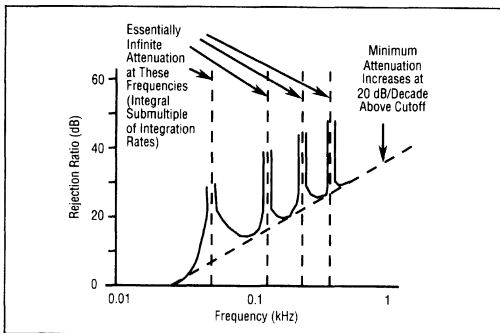

Figure 8. NMRR vs. Frequency of a Typical Integrating ADC.
where  $K(f_0)$  is the transfer function  $e_{out}/e_{in}$  at the frequency of the signal component of interest;  $f_0$  is usually either 0 (DC) or a frequency consistent with the highest rate of change of the sampled input signal; and  $K(f)$  is the transfer function for the frequency at which NMRR is calculated — typically an integral multiple of the line frequency. Figure 8 shows NMRR as a function of frequency for a typical A/D converter.